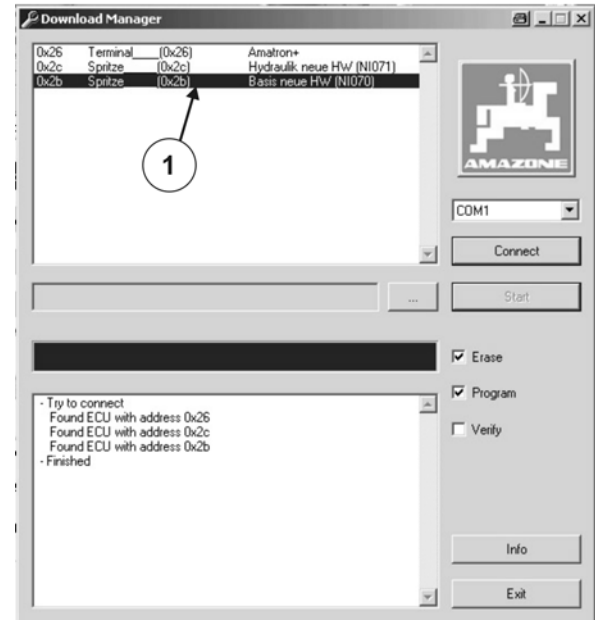

Fig. 6
1. To programme a machine computer or terminal, you must first select the appropriate software for it. To do this, select the computer to be programmed (Fig. 6/1).